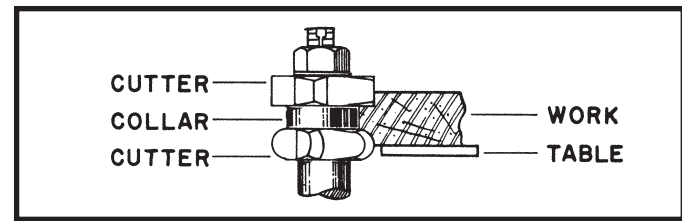

Fig. 30
4. The collar between cutters method (Fig. 30) utilizes the advantages of the first two methods and is frequently used when both edges of the workpiece are to be shaped.